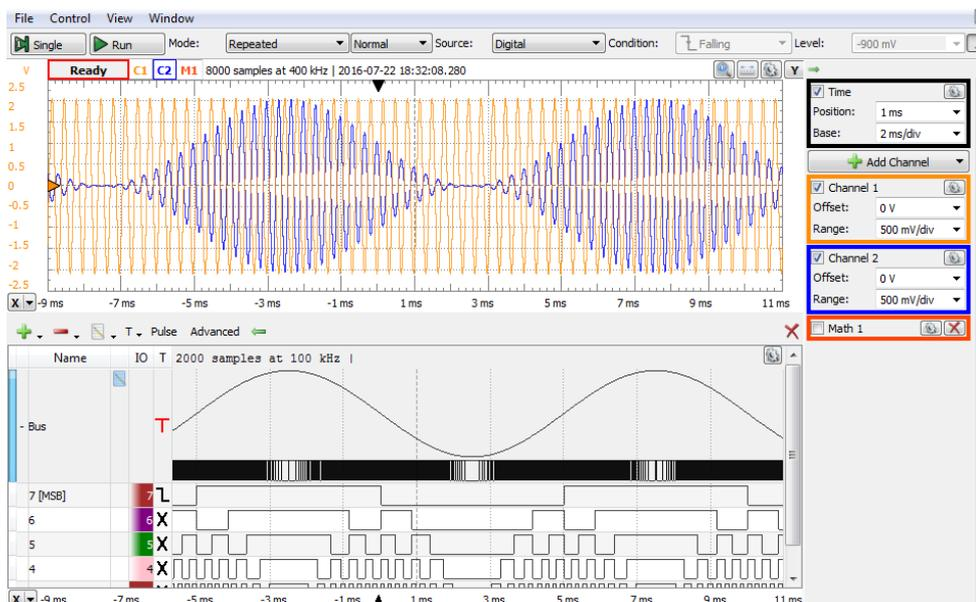

Figure 4.12 Multiplying unipolar DAC (two quadrant multiplier) - sinus
representation of the bus value, as in Figure 4.12. Notice that the graphical representation depends on the *Format* chosen for the bus (*Binary/Vector/Signed/Ones Complement/2sComplement...*). Choose any *Unipolar* representation since the DAC is unipolar.
- In *Scope*, *Add/Digital/Bus DIO7...DIO0*. Set *Trigger Source* to *Digital* and set *Trigger condition* to *DIO7 Falling Edge*. Expand the *Bus* line in the digital view of the scope, to see the graphical representation of the bus value, as in Figure 4.12. Notice that the graphical representation depends on the *Format* chosen for the bus (*Binary/Vector/Signed/Ones Complement/2sComplement...*). Choose